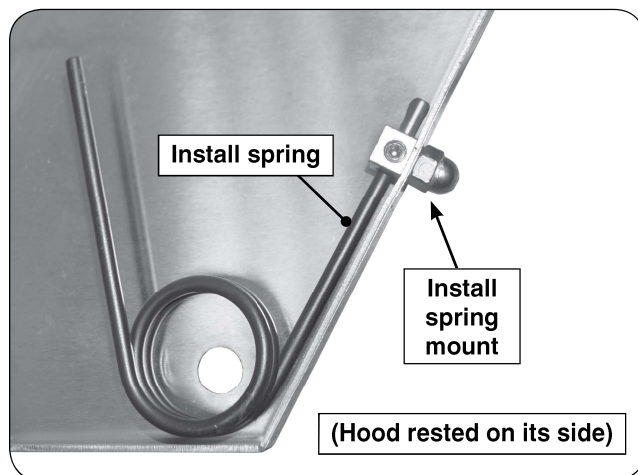

Fig. 3-1 Install spring and spring mount (on hood)
6. HOOD: install the new spring and mounting hardware. Ensure the spring is oriented exactly as shown in Fig. 3-1.